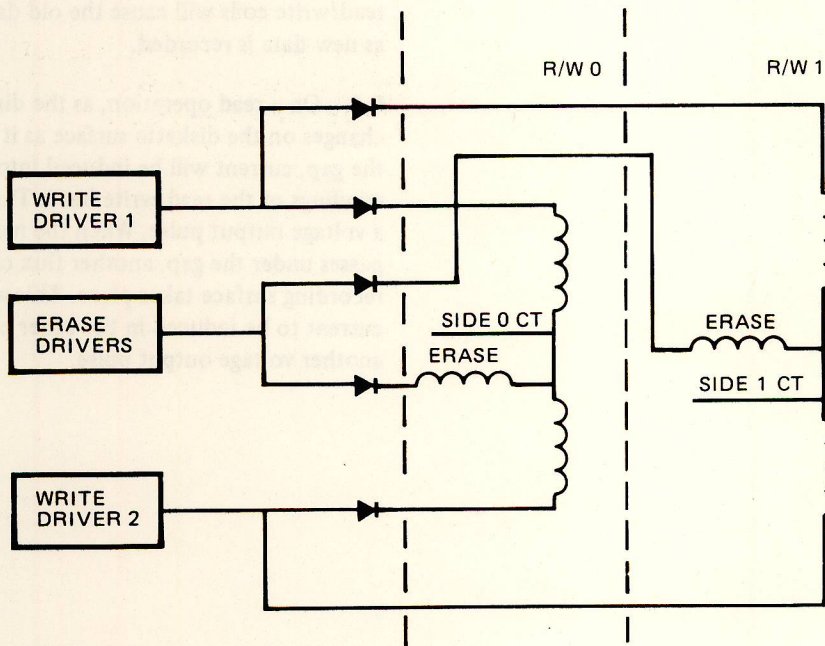

FIGURE 30 READ/WRITE HEADS
5.1 Each of the read/write heads contain three coils. Two read-write coils are wound on a single core, center tapped and one erase coil is wound on a yoke that spans the track being written. The read-write and erase coils are connected as shown on Figure 30.
7.2 Since a pulse occurs at least once every $4 \mu\text{s}$ and when data bits are present once every $2 \mu\text{s}$, the frequency of the read data varies. The read signal amplitude decreases as the frequency increases. Note the signals on Figure 30. The differential amplifier will amplify the read signals to even levels and make square waves out of the read signals (sine waves).